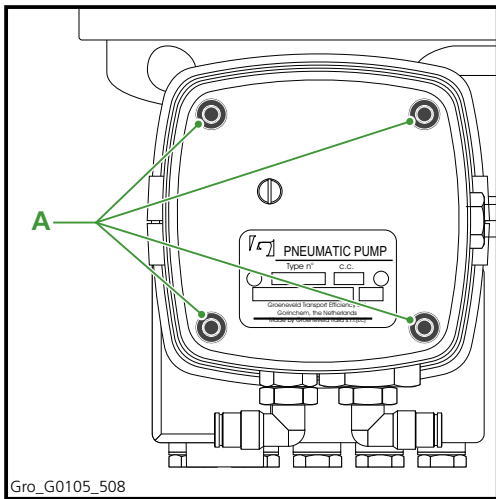

Figure 5.9 Fastening screws
1. Remove the 4 screws from the cover of the brake-counter with a suitable Allen key (Figure 5.9).
5. Replace the cover. Check that the gasket is positioned properly. Fit the cover with the 4 screws (Figure 5.9).
1. Remove the 4 screws from the cover of the timer with a suitable Allen key (Figure 5.9).